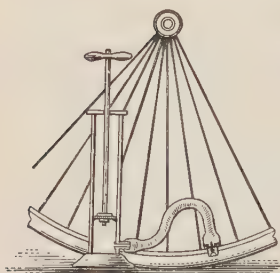

FIGURE 121.
**79. Air Compressors.** — The *bicycle pump* (Figure 121) is the simplest type of air compressor. It consists of a cylinder and piston with a concave leather disk on its under side. On